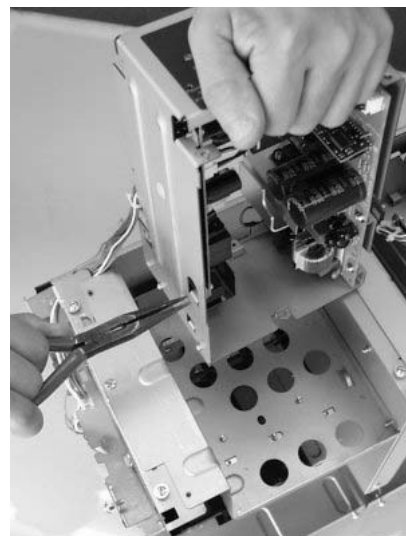

Figure 3-16 ABCS Power Supply Removal
6. Remove the Power Supply from the Cabinet (see Figure 3-16).
2. Set the power supply in its proper place in the cabinet (see Figure 3-16).